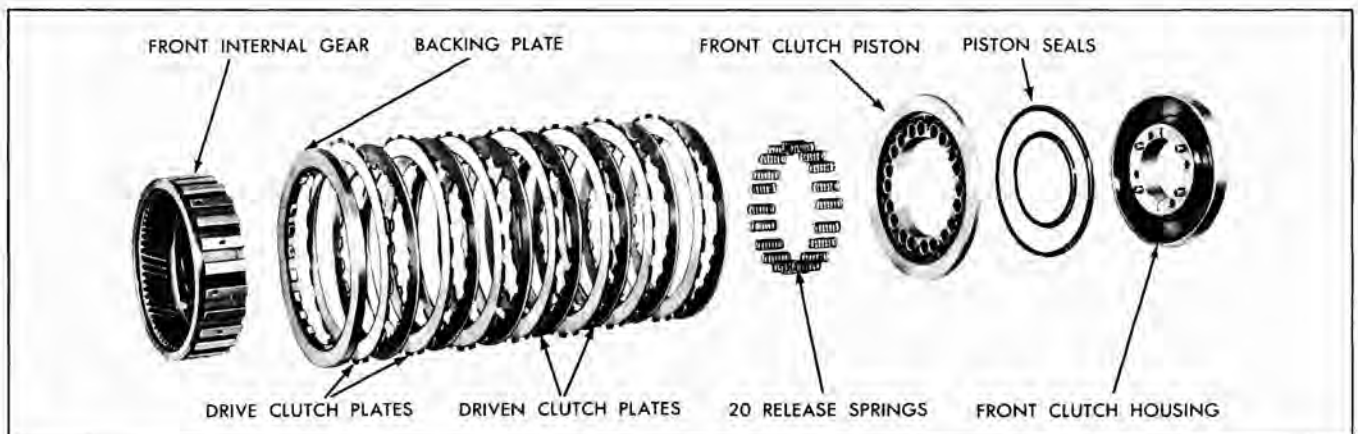

Fig. 82 Front Clutch—Exploded
7. Remove 7 drive and 7 driven front unit clutch plates (Fig. 82).